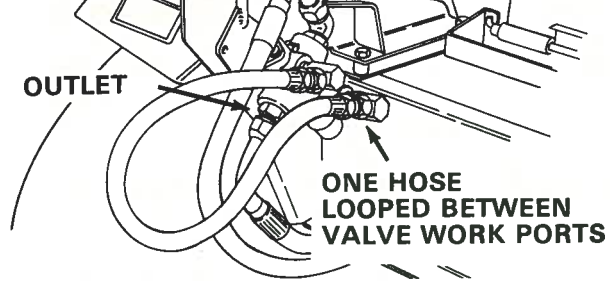

FIGURE 4 - 3000 Series
2. Figures 4 and 5. Install return hose from outlet port on PTO valve to inlet port of travel control valve. Leave fittings loose at this time.
2. Figure 7. Install straight end of longer hose provided in PTO kit to fitting on flow divider valve. Connect other end of hose to PTO valve inlet fitting. Figure 4 shows supply hose routing for 3000 series. Figure 7 shows hose routing for 4000 series.